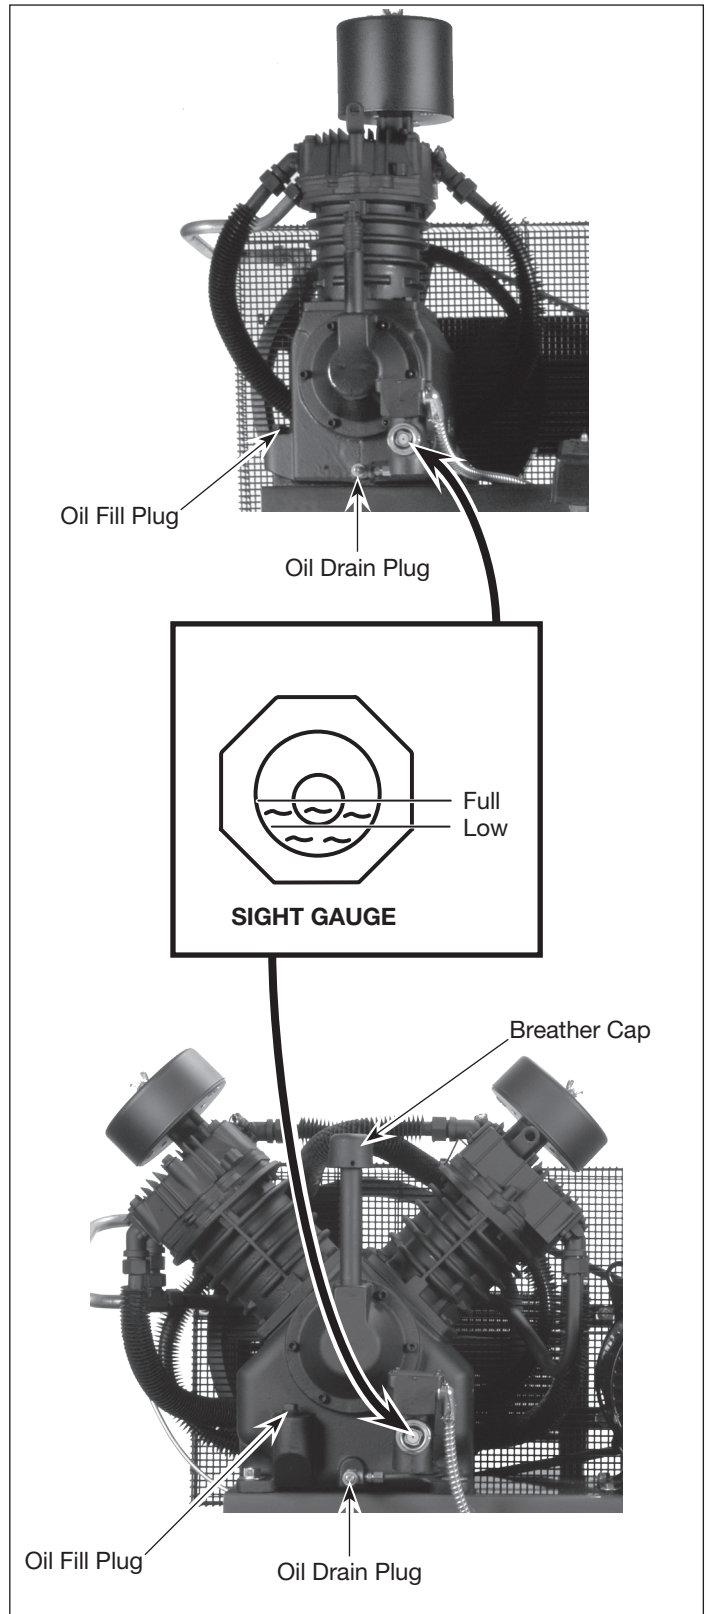

Figure 14
**⚠ CAUTION** *THIS UNIT CONTAINS NO OIL. Before operating compressor, fill to the center of the sight gauge (see Figure 14).*
Fill the pump with oil to the center of the sight gauge using oil fill opening (see Figure 14). **Do NOT fill the pump through the breather cap opening as this may cause oil to leak and spray out during operation.**